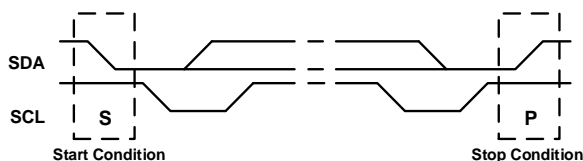

Figure 6: Start and Stop Conditions
The start (S) and stop (P) commands are signaled by the master device, indicating the beginning and the end of the I²C transfer. In the start condition, the SDA signal transitions from high to low while the SCL remains high. In the stop condition, the SDA signal transitions from low to high while the SCL remains high (see Figure 6).